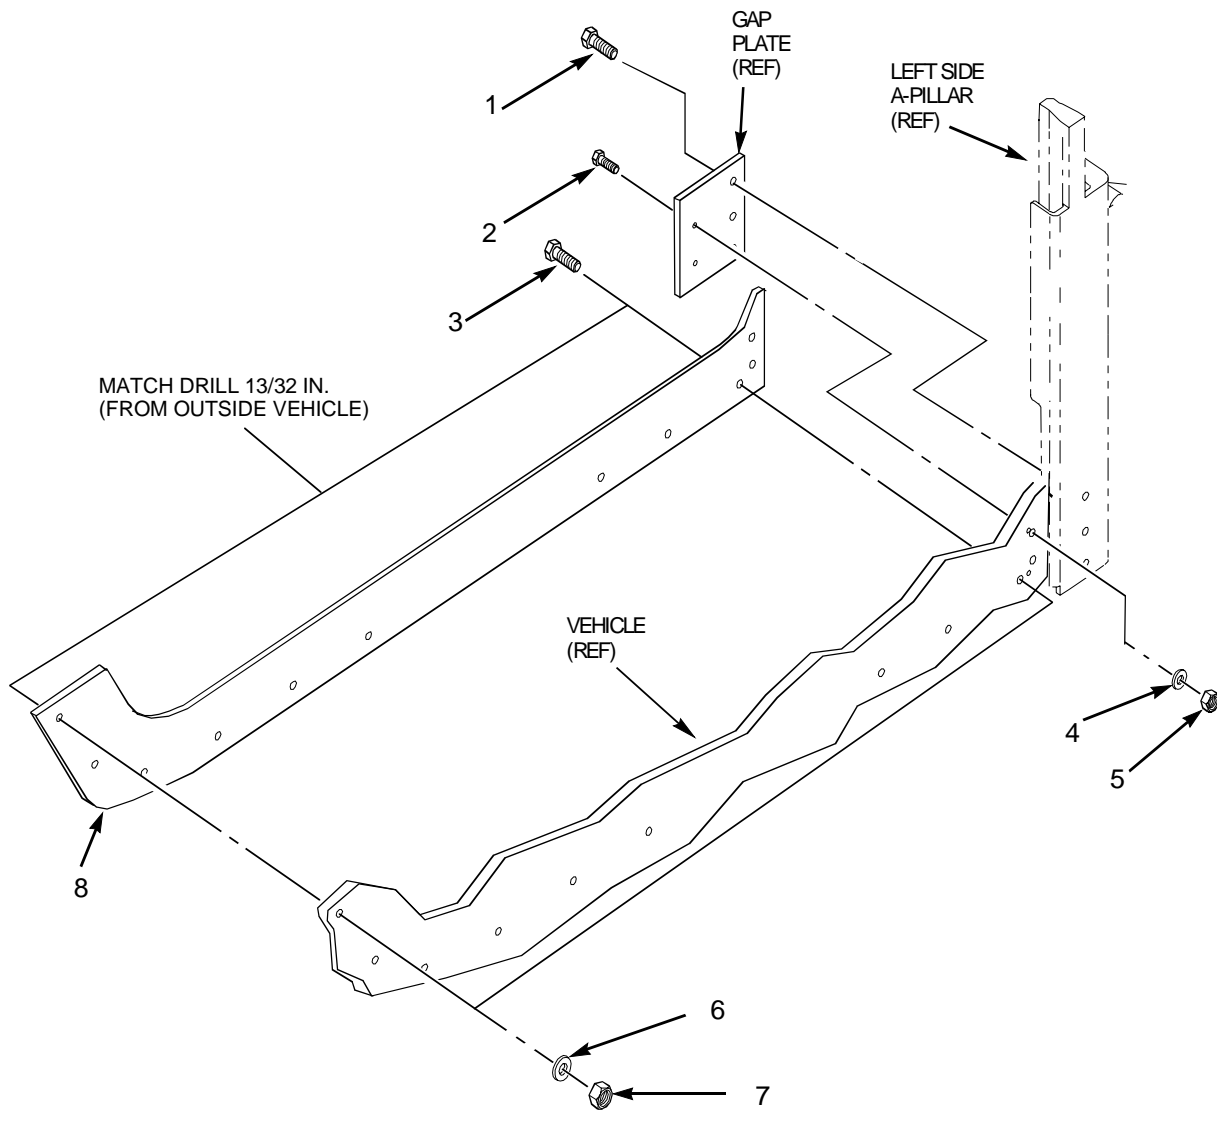

Figure 2-23. Left Rocker Panel Armor Removal (2 and 4 Door)
1. Remove left side rocker panel armor (see figure 2-23).
- a. Remove three capscrews (1).
- b. Remove two capscrews (2), washers (4), and locknuts (5). Discard locknuts (5). Remove gap plate.
- c. Remove nine capscrews (3), washers (6), and locknuts (7) securing left side rocker panel armor (8) to vehicle. Discard locknuts (7).
- d. Remove left side rocker panel armor (8).